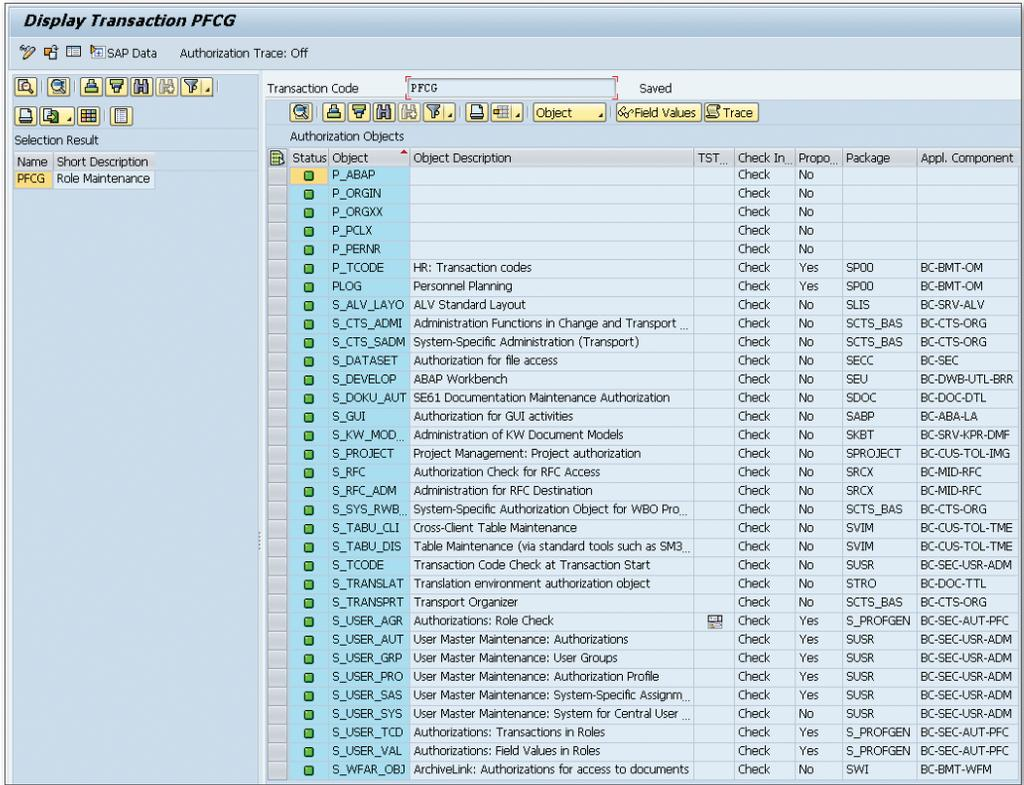

Figure 12.4 Authorization Proposal Values of Transaction PFCG
4. You are shown an overview of the authorizations entered so far, which you can also recognize in Figure 12.4.